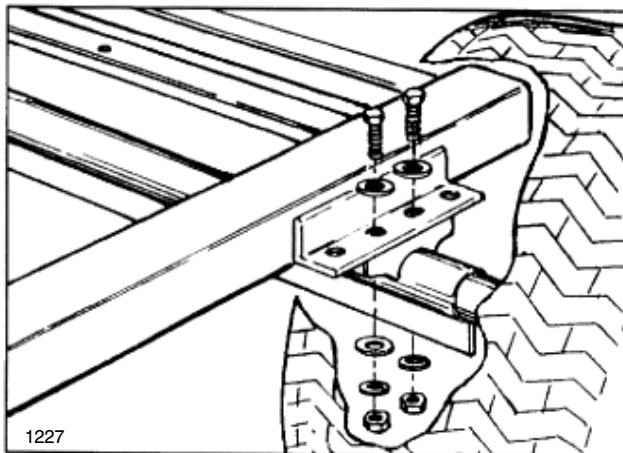

FIG. 1
2. Secure the 1/2" x 42" Agitator Hose to the 90° Barbed Elbow in bottom of Tank using (1) Hose Clamp. Assure that the Barbed Elbow is pointing to the R.H. side of Tank.
4. Secure the 1-1/4" x 36" Suction Hose to the 90° Barbed Elbow in bottom of Tank using (1) Hose Clamp.
5. Mount the Rear Axle and Tire Assembly to the Saddle Assembly as shown in FIG. 1, using (2) 3/8" x 1-1/4" hex hd. cap screws, lock washers, hex nuts and (4) flat washers on each side of the Saddle Assembly. Torque to 30 ft. lbs (41N-m). Additional holes in Saddle Assembly are for weight transfer adjustment.